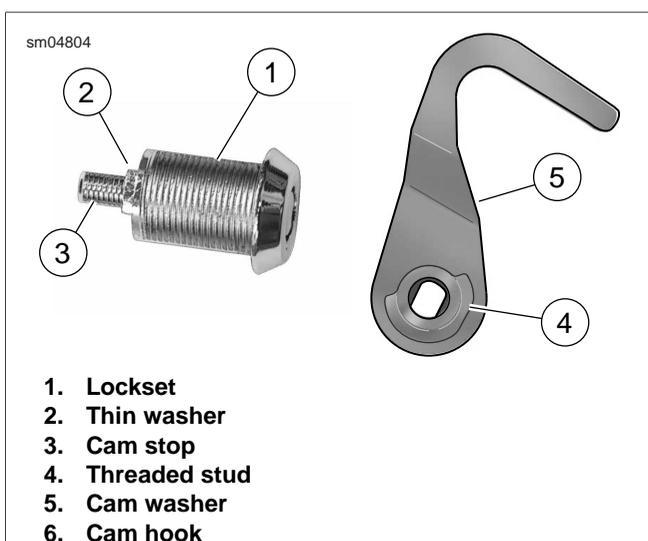

Figure 2-122. Lockset Mechanism
2. At outside of Tour-Pak, remove lockset. Remove thin washer from threaded body of lockset. See Figure 2-122.
1. Slide thin washer down threaded body of lockset. See Figure 2-122.
6. Align cam hook and cam washer as shown in Figure 2-122. With the cam hook toward the front of Tour-Pak lid and cam washer on the inboard side, slide assembly down threaded stud.